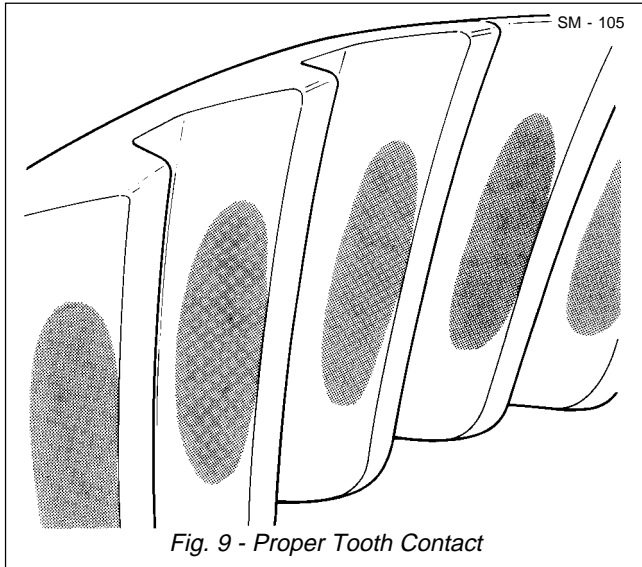

Fig. 9 - Proper Tooth Contact
3. Gear tooth patterns can be interpreted by referring to Figs. 9 thru 14.
- a. If a contact pattern similar to that shown in Fig. 9 is obtained, the adjustment is correct.